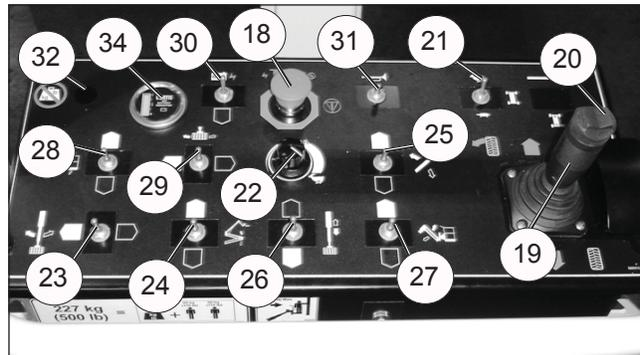

Figure 4 – Upper Controls and Indicators
10. Test each machine function (Drive, Lift, Jib, Riser, Slew, Telescope, Platform Rotate, Platform Level) from the upper control station by stepping on the platform foot switch and operating the function controls (ref: Figure 4 on page 6).
Use the following procedure to operate machine functions using the upper controls (ref: Figure 4 on page 6).